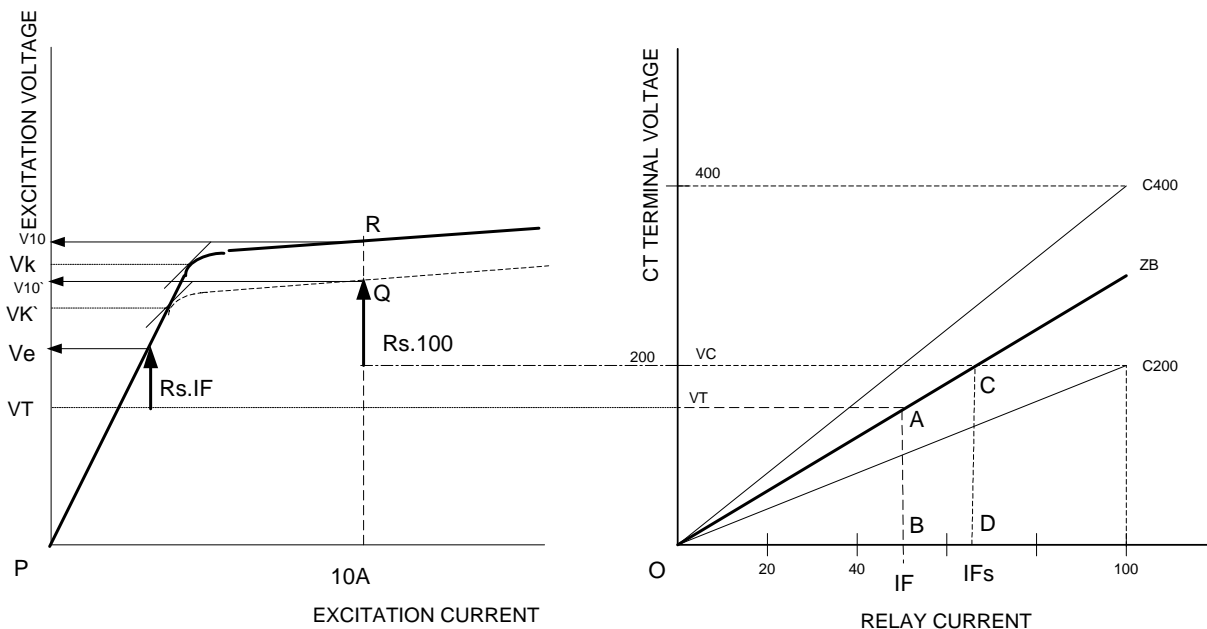

Figure 2. CT Terminal and Excitation Voltages
In Figure 2, the CT terminal voltage increases linearly with the secondary current along the  $V=ZB \times I$  line where  $ZB$  is the total CT burden (leads plus relays for a particular fault and connection). A terminal voltage ( $V_T$ ) corresponds to the maximum fault current. This voltage is lower than the maximum voltage ( $V_C$ ) that the C200 CT can support. Saturation will occur (i.e. ratio error will exceed 10%) for secondary currents in excess of  $I_{FS}$  where the corresponding terminal voltage crosses the accuracy class limit  $V_C$  (point C in Figure 2). We can define a measure of the degree of saturation with the saturation factor (SF):
The definition of the saturation factor given above appears to be conservative because it assumes the worst case ratio error. However, a closer look is required since it neglects the CT internal resistance. It corresponds to an excitation voltage on a curve passing through point Q in Figure 2 at which the exciting current is 10 amperes (the maximum error allowed by the accuracy class definition). The  $R_s \times 100$  term represents the voltage drop across the CT internal resistance. A new SF which takes the internal CT resistance into account can be defined on the excitation curve, as:
Since in all likelihood, the excitation voltage capability of the CT will be higher (passing through point R in Figure 2 for instance), the saturation factor defined on the excitation curve appears to be lower, i.e. - more favorable. A detailed analysis can be performed to compare the two saturation factor definitions.